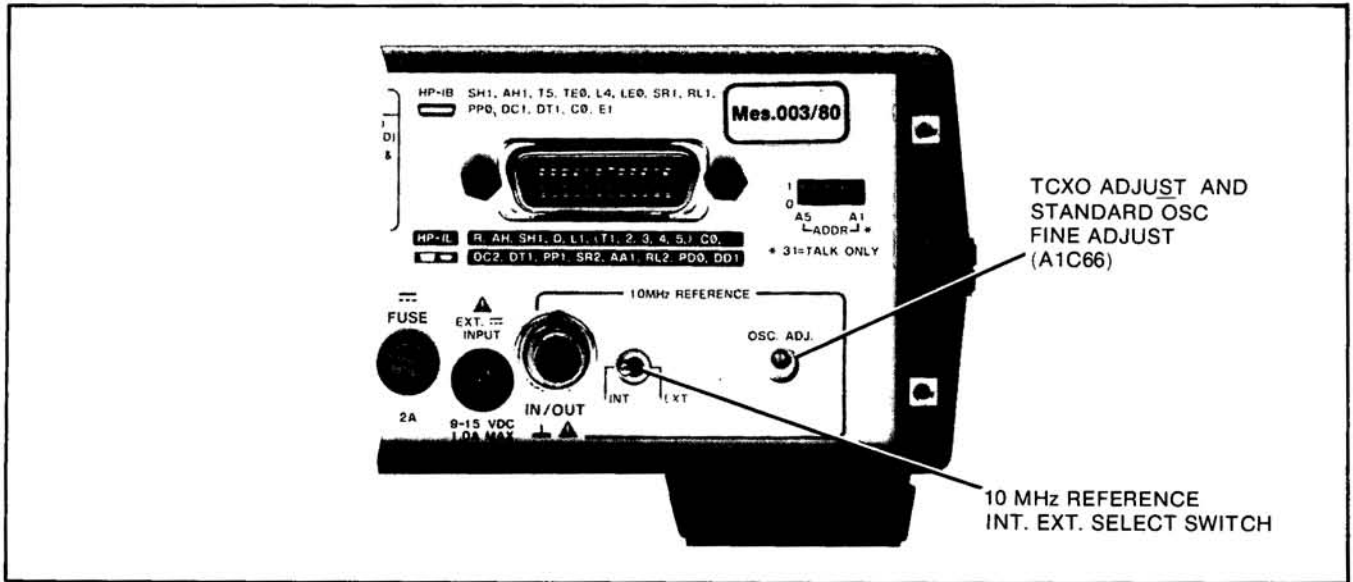

Figure 5-7. TCXO and Standard Oscillator Adjustment
- c. Select INT with the 10 MHz REFERENCE INT EXT select switch on the rear of the instrument (see Figure 5-7).
- d. Adjust the frequency for minimum sideways movement of the 10 MHz signal with the OSC ADJ located on the rear of the instrument (see Figure 5-7). For the Standard Oscillator, the same rear panel location is used to adjust A1C66, the standard oscillator fine adjustment capacitor. If A1C66 does not have enough range to minimize movement, adjust